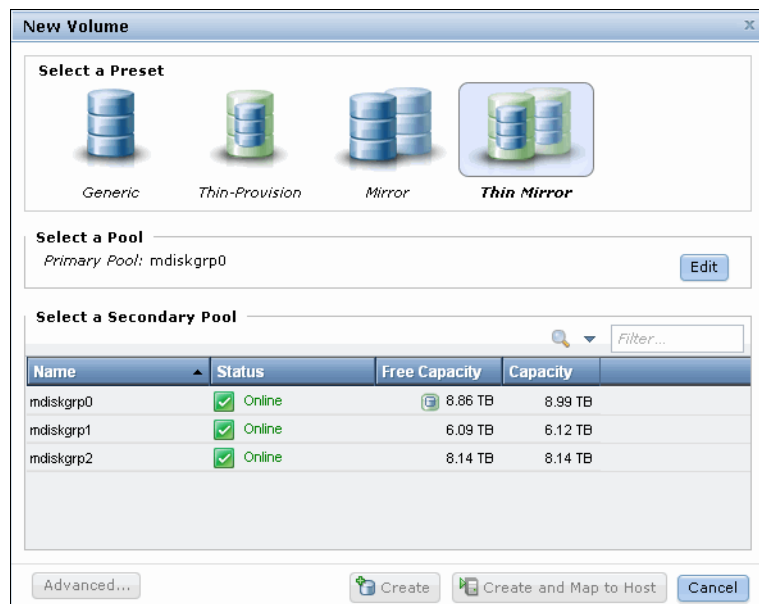

Figure 5-17 Select pools
2. Select the primary pool by clicking it and view the changes to the secondary pool, as shown in Figure 5-17.